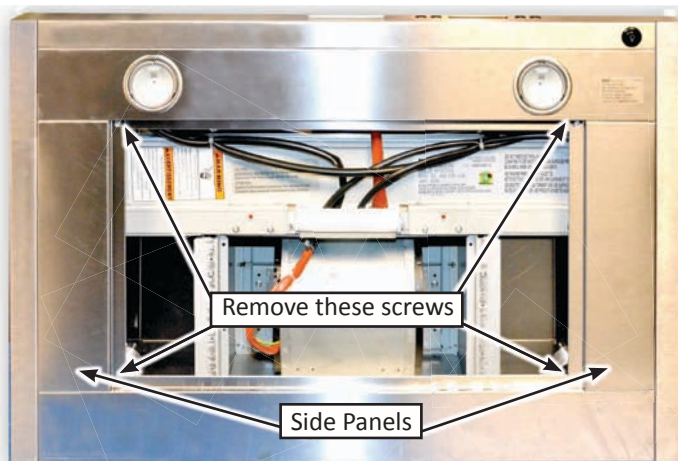

Figure 1
3. Remove (2) T10 Torx screws each from the right and left of side panels total of (4), see figure 1.